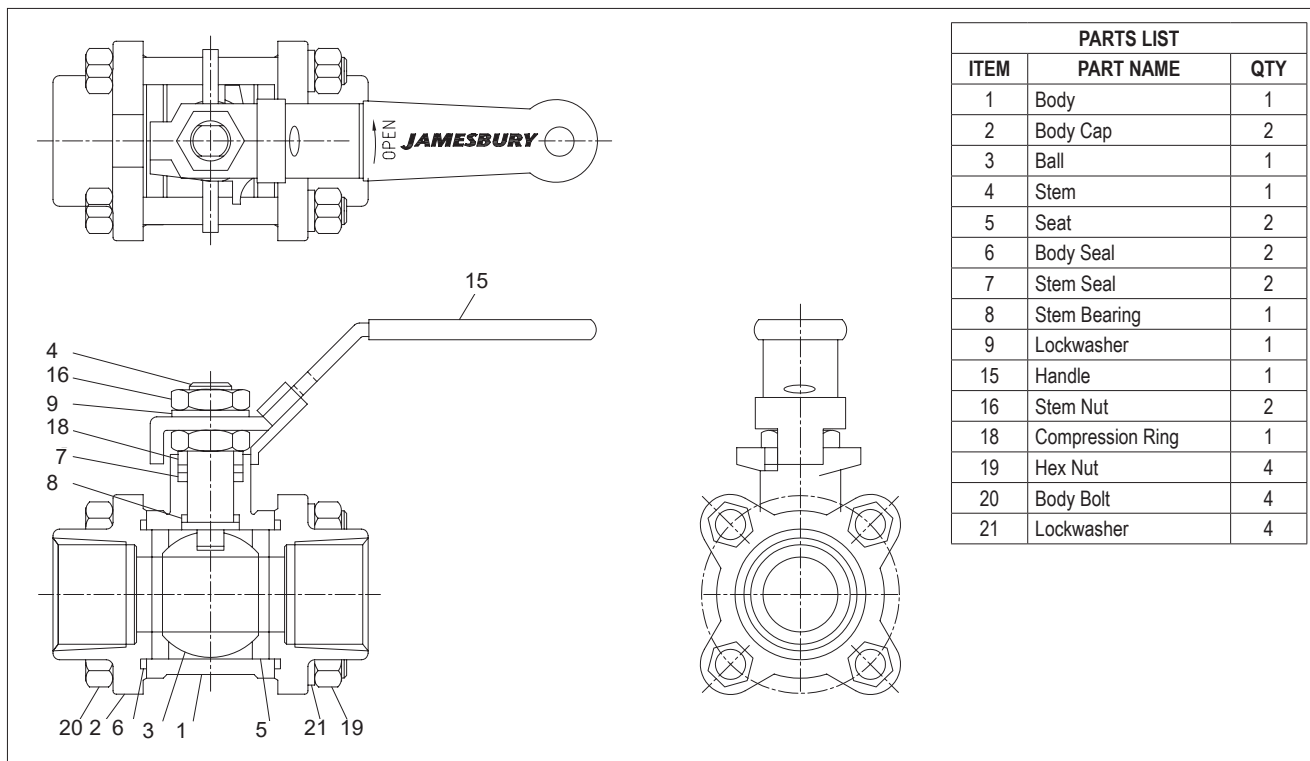

Figure 6.
Although Neles *Jamesbury* valves are designed to work under severe conditions, proper preventative maintenance can significantly help to prevent unplanned downtime and in real terms reduce the total cost of ownership. Neles recommends inspecting valves at least every five (5) years. The inspection and maintenance frequency depends on the actual application and process condition. Routine maintenance consists of tightening the stem nuts (16) in (**Figure 6**) 1/4 turn periodically to compensate for stem seal wear. The valve should be fully closed during the tightening. **CAUTION:** Tightening hex nuts (16) too severely will shorten the life of the shaft seals.
- From **Figure 6**, the ballooned part number, part name and quantity required.